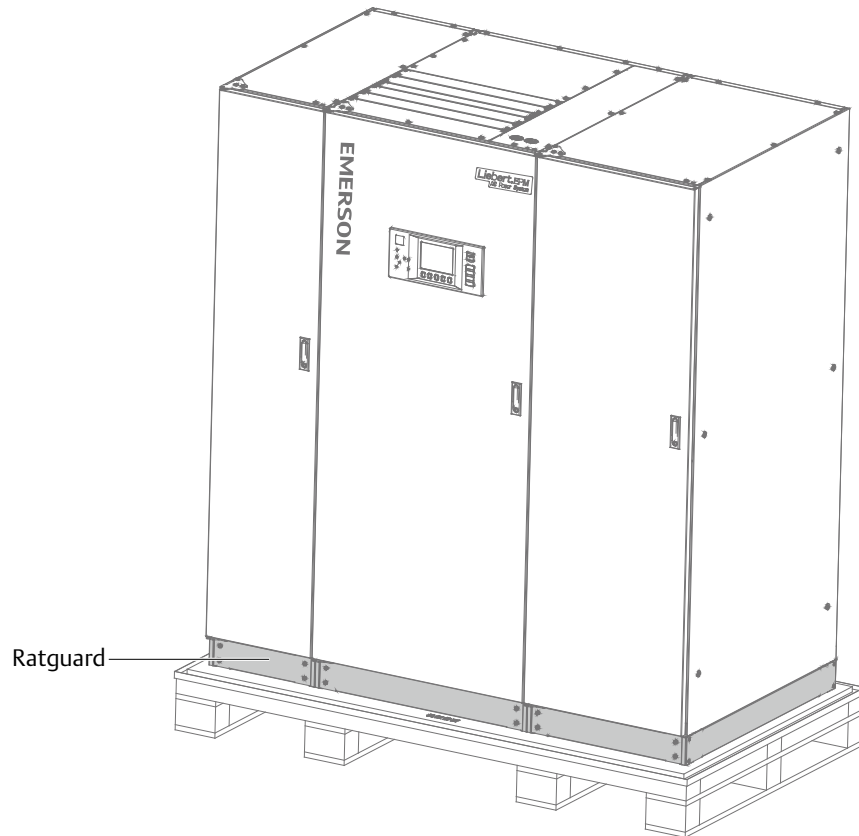

Figure 2-3 Removing ratguards
2. Remove the ratguards both front and rear, see Figure 2-3.